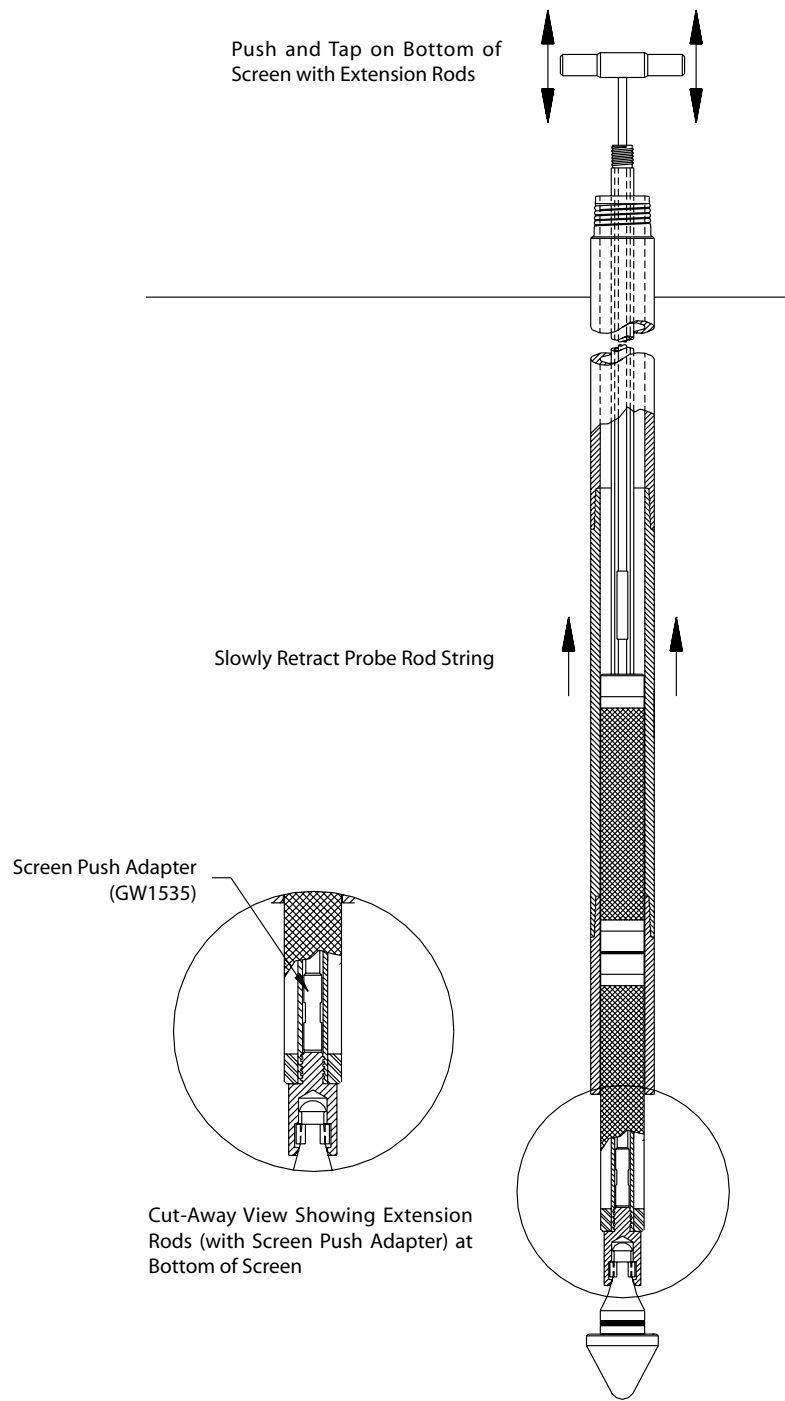

FIGURE 4.6:
- d. Place a Screen Push Adapter (GW1535) on the end of an Extension Rod. Insert the adapter and extension rod into the PVC riser and hold by hand or with an Extension Rod Jig (AT690). Attach additional extension rods with Extension Rod Couplers (AT68) or Extension Rod Quick Links (AT695 and AT 696) until the push adapter contacts the bottom of the screens (Fig.4.6). Place an Extension Rod Handle (AT69) on the top extension rod after leaving 3 to 4 feet (1 to 1.2 m) of extra height above the last probe rod.
- e. Slowly retract the probe rods while another person pushes and taps on the screen bottom with the extension rods (Fig.4.6). To ensure proper placement of the screen interval and prevent damage to the well, be careful not to get ahead while pulling the probe rods. The risers should stay in place once the probe rods are withdrawn past the screens. Retrieve the extension rods. Place the cap back on the top riser and secure the cap with duct tape if necessary.
2. Begin slowly pouring 20/40 mesh sand (AT95) down the annulus between the PVC riser and probe rod string. Reduce spillage by using a funnel or flexible container as shown in Figure 4.6. Add approximately 2.0 liters of sand for each 3-foot (1 m) screen section or 3.25 liters of sand for each 5-foot (1.5 m) screen, plus 1.75-2.0 liters for a minimum 2-foot (0.6 m) layer of sand above the top screen section.